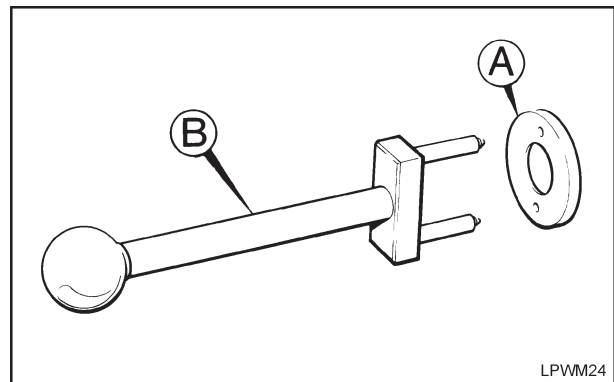

Figure 2.27.1 Valve Spring Compressor - 393155
6. Replace the valve spring (D) and spring carrier (E).
7. Fit the adaptor (A), see 'Figure 2.27.1', over the valve spring carrier with the two indentations facing outwards.
8. Push down on the tool lever until the collets (F) can be replaced in position with their tops slightly sunk in the valve spring carrier.